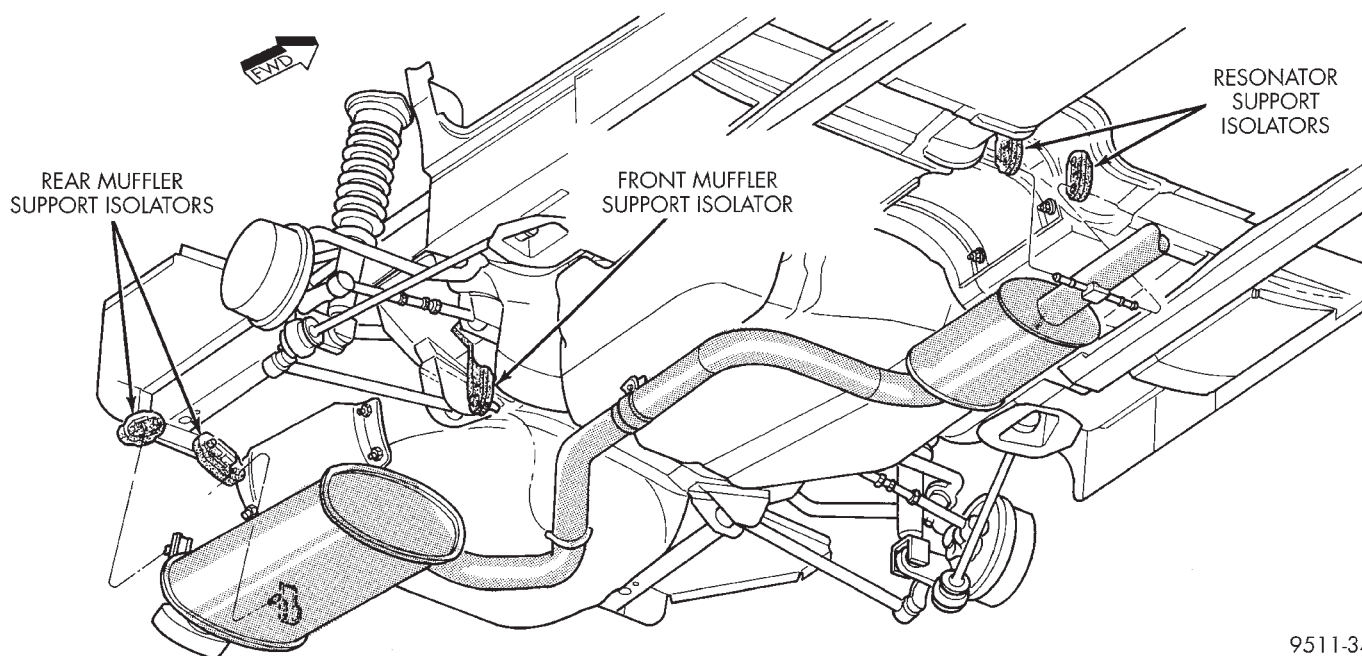

**Fig. 14 Exhaust System Support/Isolator Locations**
- Remove all exhaust system support/isolators from the vehicle's exhaust system (Fig. 14). Remove